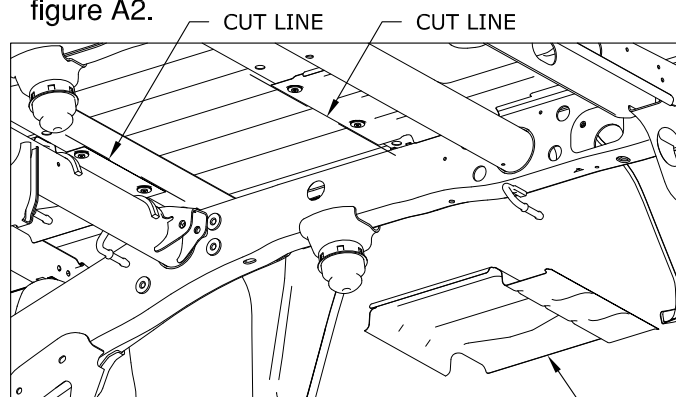

FIGURE A2: View Under Bed Looking at Heat Shield Removal Area
5. **Modify heat shield.** Cut out the section of the heat shield directly over the exhaust between the two bed cross members that are above the rear axle, see figure A2.